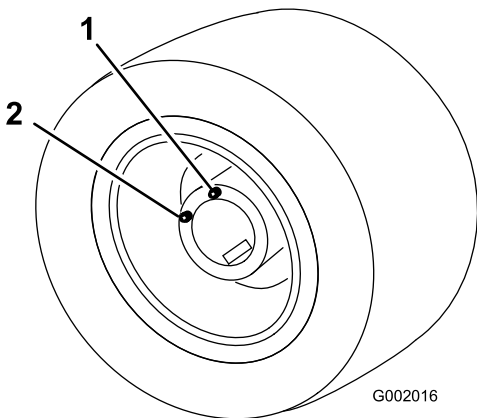

Figure 51
5. Move the vehicle slowly until the wheel is positioned for filling as illustrated in Figure 51